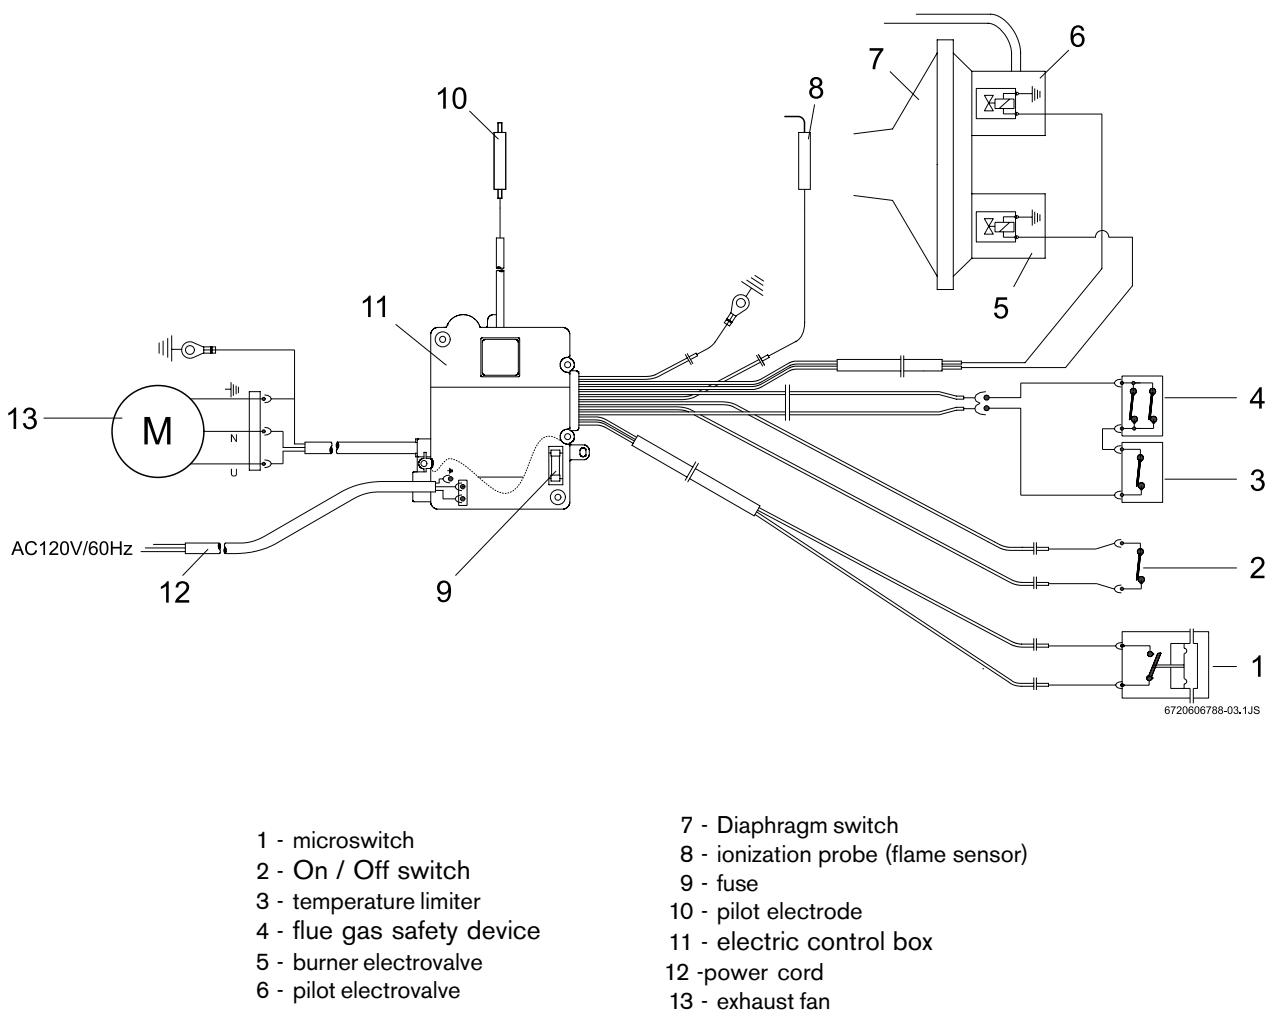

Fig 9: Wiring Diagram for 425 EF
- The heater is wired as shown in the wiring diagram. (Fig 9).
Check the viability of the fuse (see Fig 9 (#9) for location of fuse). Replace if necessary.
5. Pilot electrovalve switch may need to be replaced (see fig 9).
Measure millivoltage at pilot electrovalve (see Fig 9).
6. Control Box may need to be replaced (see fig 9).